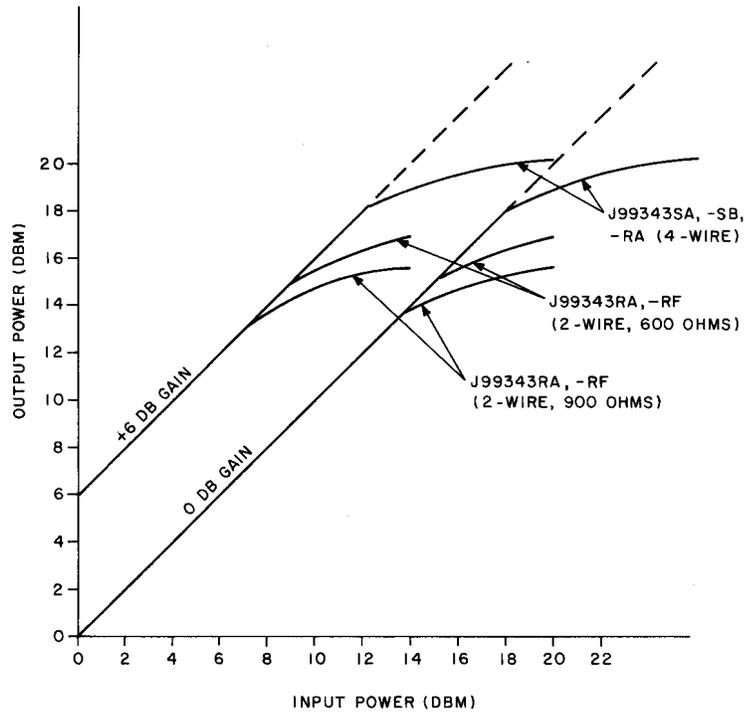

Fig. 25—Output Power Capacity of the J99343SA, SB, RA, RF Repeaters
**6.15** Figure 25 shows the output power capability of the 4-4 and 2-4 repeaters. In 4-wire applications, power limiting occurs in the transmit amplifier unit at about +18 dBm. The output power may be generated by a combination of input power and repeater gain, with the same limiting characteristic as shown by the +6 dB gain line in the figure.